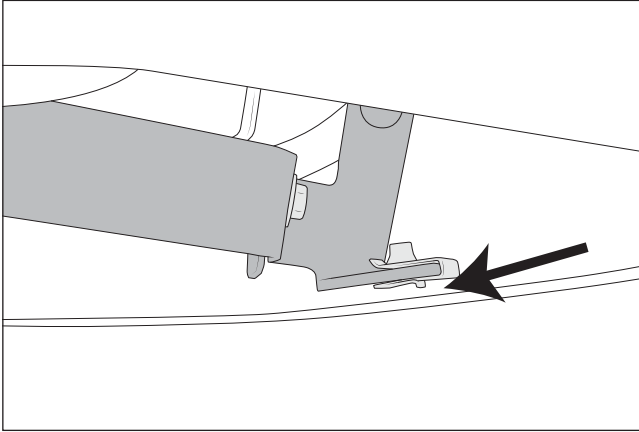
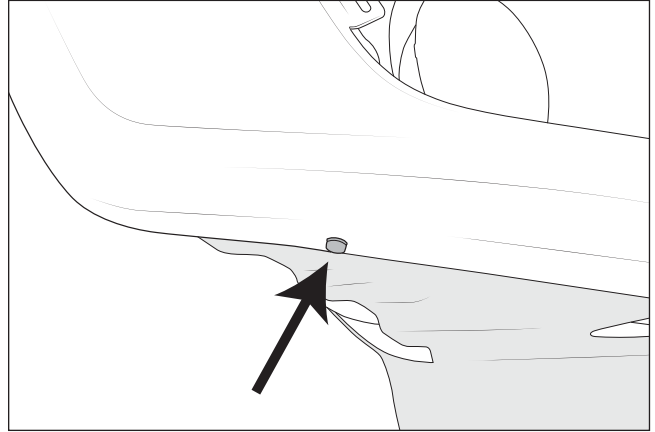

Figure 9
Figure 10
7. Reinstall wheel liner closeouts. Fit the wheel liner between the bumper and light bracket (fig. 9), and use the supplied M6 bolt to fasten to the U-nut in this location (fig. 10).